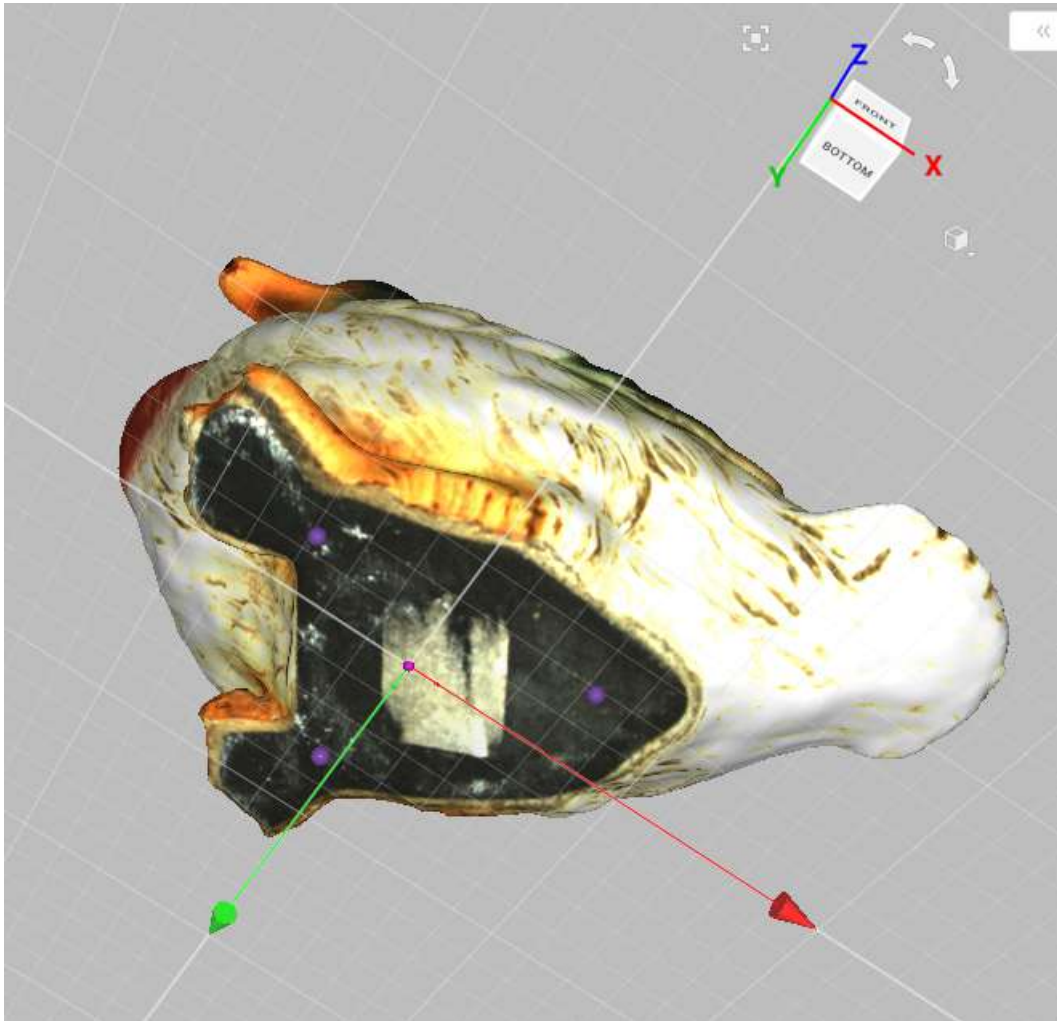

Figure 119: Positioning the model in the global coordinate system.
5. Use LMB to specify at least three points on the surface; the plane will automatically pass through their center of mass (see Figure 119). The following conditions will then apply: